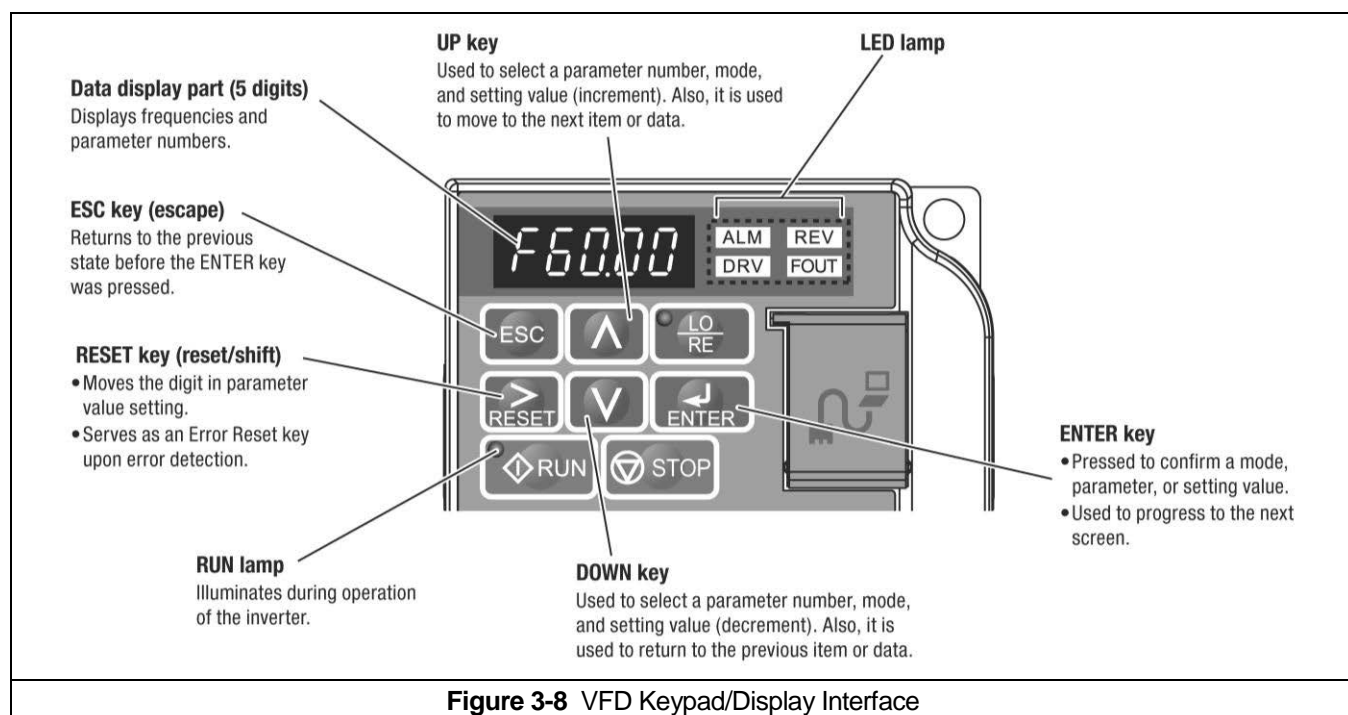

Figure 3-8 VFD Keypad/Display Interface
- 3.6.4 The VFD is controlled by a Keypad/Display Interface. Refer to **Figure 3-8** for Keypad/Display Interface functions and descriptions.